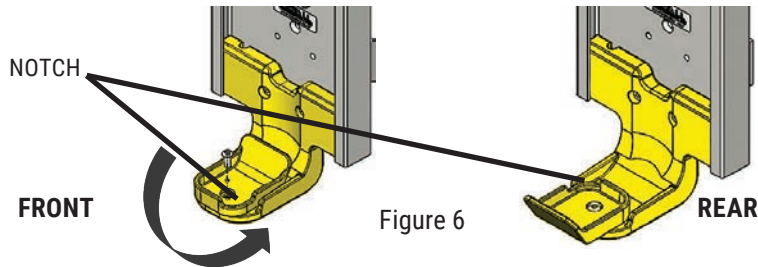

Figure 6
- A. Adjustment required for Interspiro SCBA with angled valve support only: use $\frac{3}{16}$ " (4.5mm) hex key wrench to remove attachment screw, rotate valve cup 180°, and reinstall screw for valve cup notch positioned rearward. See Figure 6.